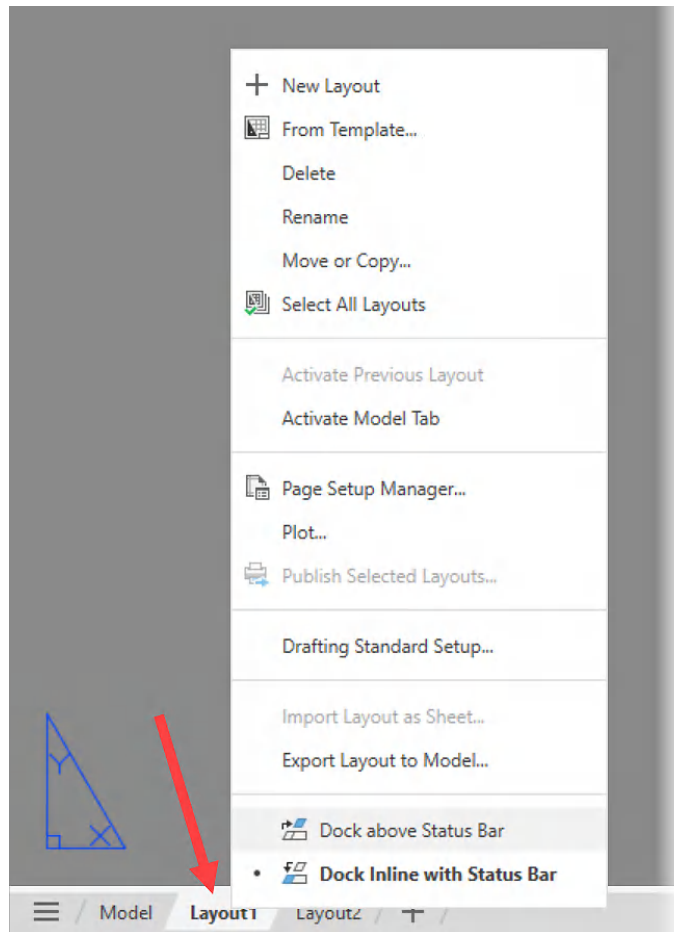

Figure 3.10: The Layout tab right-click shortcut menu
A **Layout** tab has a similar shortcut menu displayed after right-clicking on it. Each of these shortcut menus is contextual, so different options are displayed. *Figure 3.10* shows the shortcut menu displayed.
- **Select All Layouts:** It is sometimes required to select all **Layout** tabs to publish them all (see **Publish Selected Layouts...** in *Figure 3.10*). You would use this option after all **Layout** tabs have been selected).